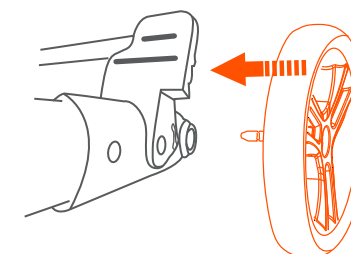

Fig. 3a
- 3) • Insert the metal pin on the rear wheel into the axle (Fig. 3a).